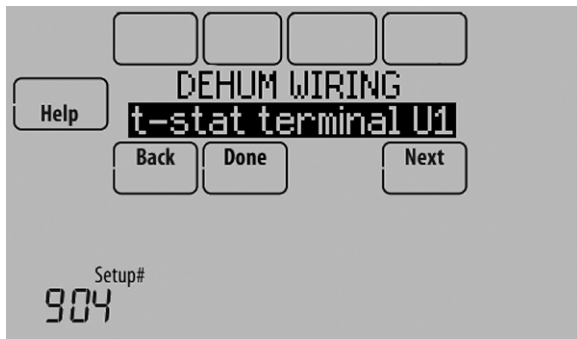

Fig. 197.
- Select the terminals wired to the Whole House Dehumidifier. See Fig. 197.